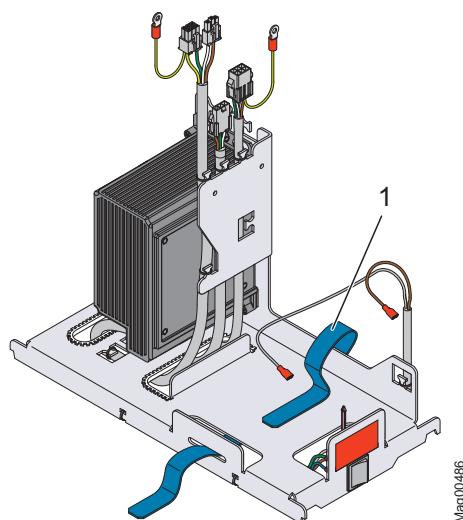

Fig. 7: Attach double-sided hook-and-loop-tape
5. Attach double-sided hook-and-loop-tape to the bracket according to Fig. 7.